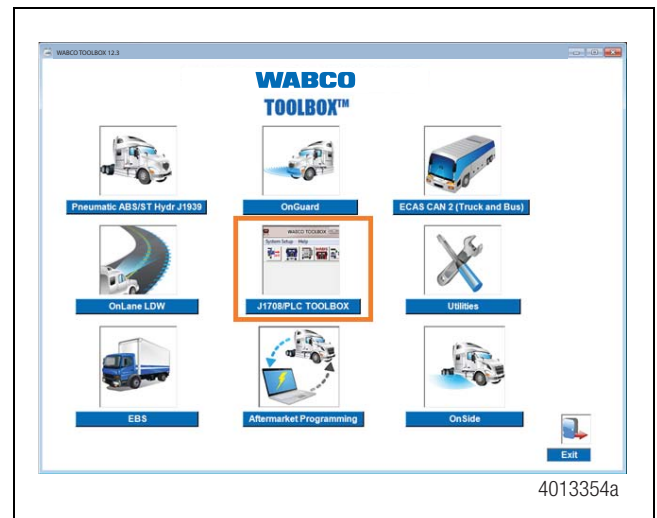

Figure 3.6
3. Select the J1708/PLC TOOLBOX™ menu for the HABS-E unit information. Figure 3.6.